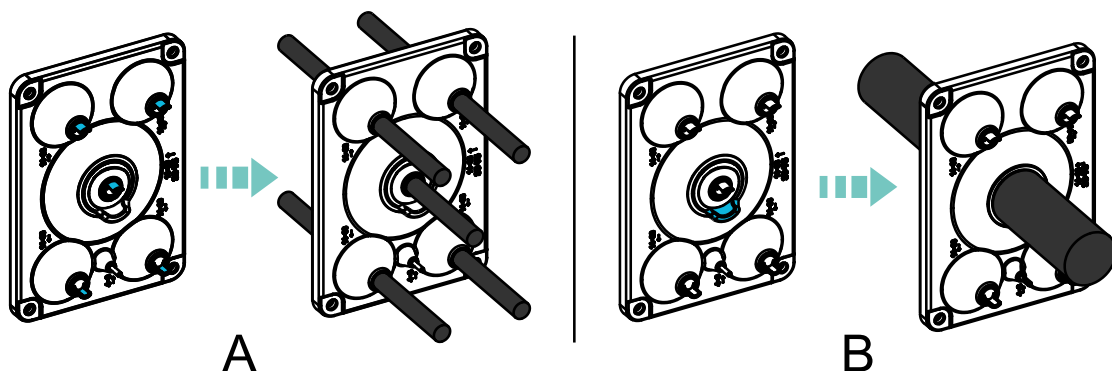

Fig 4-6 Route the cable through the seal ring
- For single-core outdoor cable, refer to Fig 4-6(A). Note: When using the middle seal ring for routing, route grounding wire through it rather than L1, L2, L3, or N wire.
- For four-core and five-core outdoor cable, refer to Fig 4-6(B).